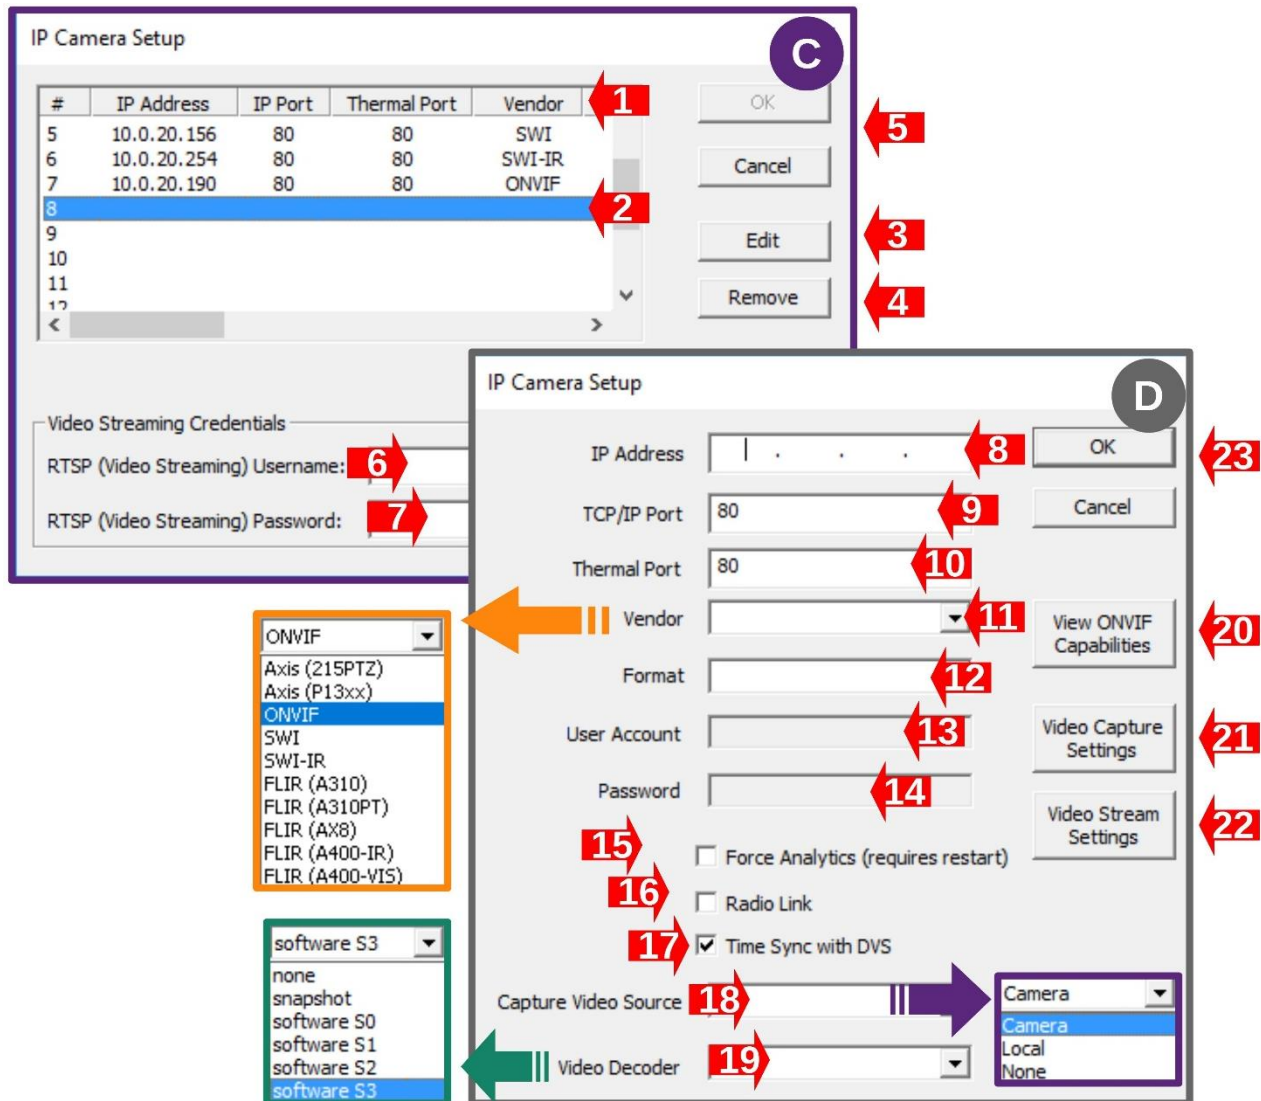

Figure 5-9 Edit IP Camera Configuration
3. Add new camera - click on an empty slot in the list then press the “Edit” button; in this example #8 is the first empty slot. Follow the instructions in Figure 5-9.
4. Modify existing – click in the list # the camera that you want to modify then press the “Edit” button. Follow the instructions in Figure 5-9.
Follow these steps to add or modify an IP camera – see Figure 5-9: